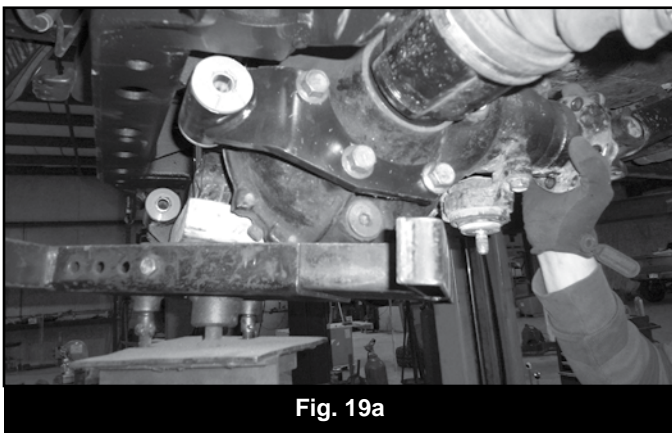

Fig. 19a
35. Install the new differential brackets (Drv front & Pass front) onto the differential with the factory hardware on the driver's side. Use new 14mm hardware on the passenger's side (#664). Leave hardware slightly loose. (Fig 19a, 19b)